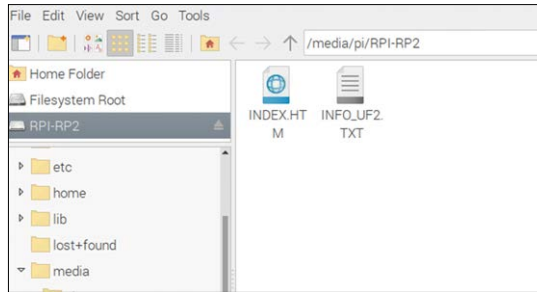

Figure 2.2: Notice two files.
- In the **File Manager** window, you will see two files with the names **INDEX.HTM** and **INFO_UF2.TXT** (Figure 2.2).